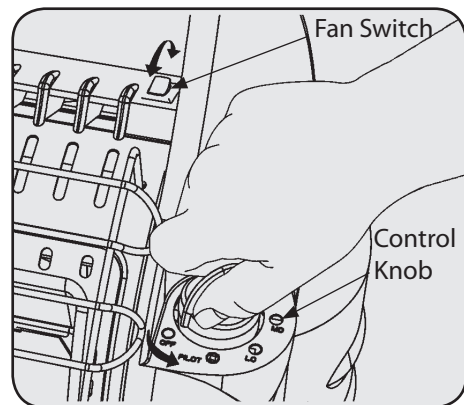
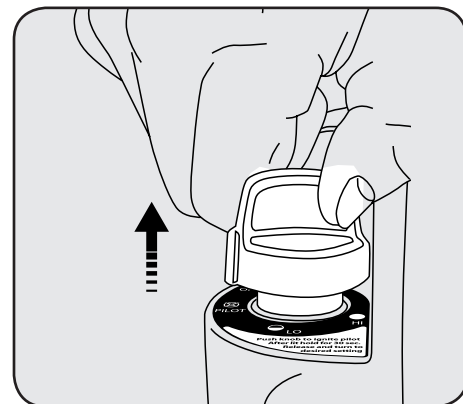

Figure 2
Figure 5
1. Make sure four-position Control Knob is in "OFF" position. See Figure 2.
5. After lighting pilot, release knob. Knob should return to fully extended position. See Figure 5. (If needed, repeat these steps until pilot lights).
7. After left burner tile has turned bright orange, adjust heat output by turning control knob to desired position ("LO", "MD" or "HI"). Note: Both tiles turn orange only on HI setting. **(2) 1 LB. propane bottles are needed to use heater in (HI) position.**
8. For added heat circulation turn red fan switch to on. The fan switch is located just left of control knob side handle support. See Figure 2.
8. After lighting pilot, release knob. Knob should return to fully extended position. See Figure 5. (If needed, repeat these steps until pilot lights).
11. For added heat circulation turn red fan switch to on. The fan switch is located just left of control knob side handle support. See Figure 2.